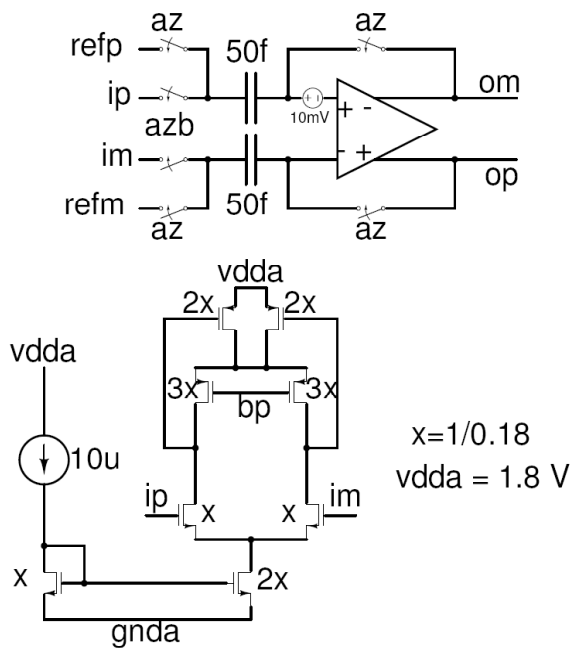

Figure 5: Preamp, autozeroing
6. Fig. 5 shows a preamplifier to be used in a flash